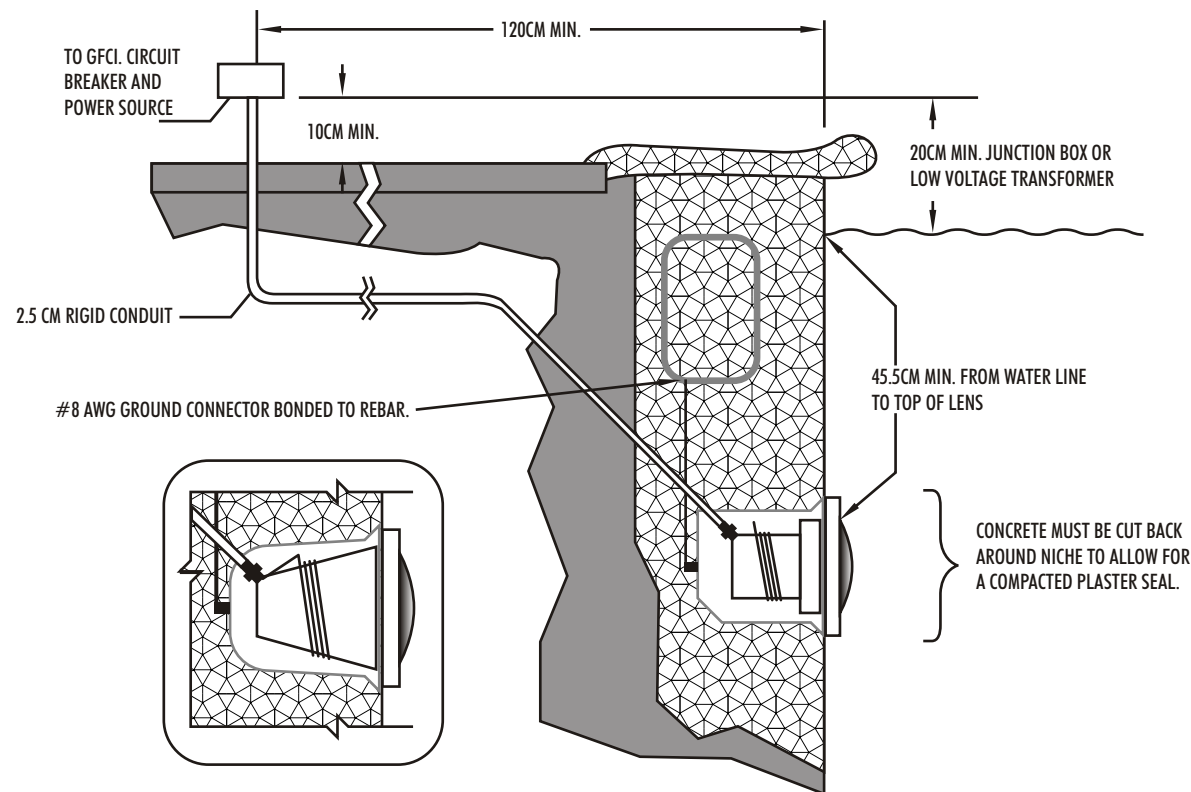

Figure 1.
A. The electrician must complete preparatory steps before light fixture is installed; see Figure 1.
- The Junction Box (or, for 12 volt models, the low voltage transformer) must be located at least 20CM above water level, at least 10CM above ground level, and at least 120CM from the edge of the pool; see Figure 1.
- The wet niche must be properly installed so that the top edge of the underwater light's lens is at least 45.5 below the surface of the water in the pool; see Figure 1.
- The wet niche must be properly electrically bonded and grounded via the No.8 AWG ground connector located at the rear of the niche; see Figure 1.
- Feed cord through conduit to Junction Box, leaving at least 120CM of cord at the light fixture to coil around the light; see Figure 1. This 120CM of cord around the light allows the light to be serviced after the pool is filled with water.
- Strip 15CM of the outer cord jacket to expose the three insulated wires. Be careful not to damage the insulation on the three (3) inner wires.
- Connect all three (3) wires to the corresponding circuit wires in the Junction Box, and secure the Junction Box cover in place.